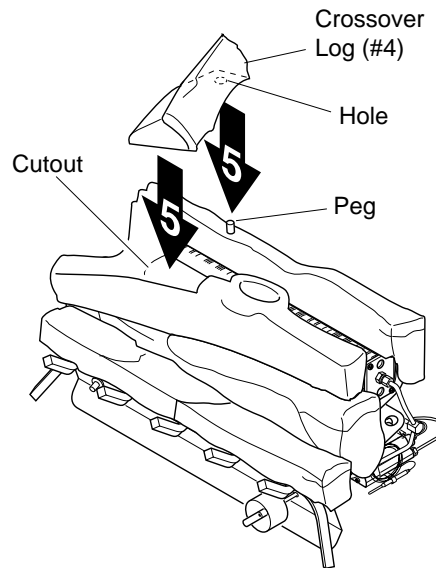

Figure 25 - Installing Crossover Log (#5)
4. Place the crossover log (#5) on the back log and the top middle log. Make sure the peg on the rear log is in the hole in the bottom of the crossover log. The crossover log should fit in the cutout of the top middle log (see Figure 25).